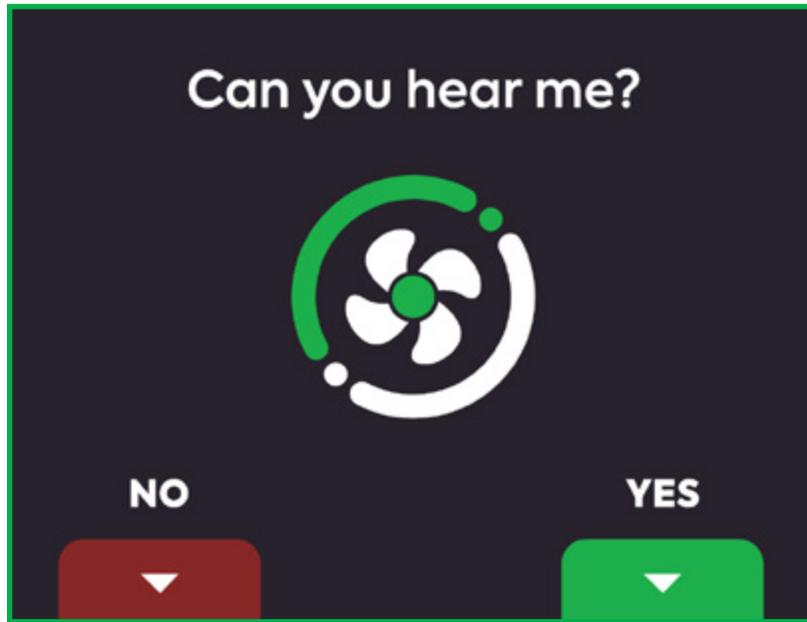

FIGURE 9
8. The identification procedure starts by automatically turning the compressor on and off multiple times. This verifies that the console you are trying to pair with, it the correct unit. When you hear the console, you can confirm pairing the controller. (Figures 9, 10)